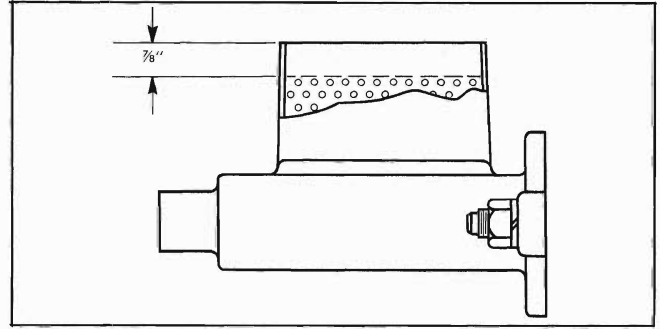

Fig. 5-7 Correct Fluid Level in Master Cylinder
7. Add sufficient brake fluid in the master cylinder to bring fluid level to within $\frac{7}{8}$ " of top of gasket surface on filler neck (Fig. 5-7). Bleed brakes if necessary to get proper pedal reserve and remove "spongy pedal".